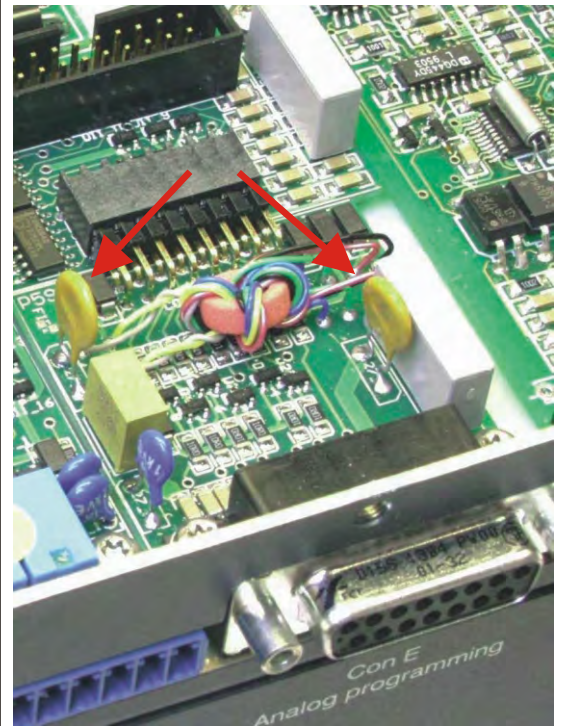

fig. 5 - 1
- Check fuse F27_2 in series with Ø (pin 8 of CON E), see fig. 5 - 1. To check the fuse measure the voltage between Ø and the minus output, a high voltage means too much current flowing through the fuse. F27_2 = 650 mA, self resetting.